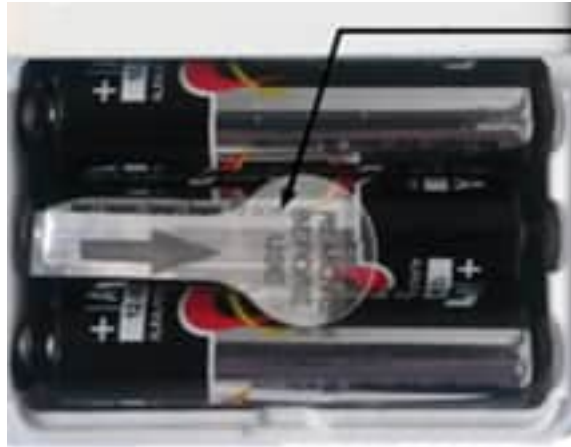

Figure 5.61: Symbols showing the correct orientation of the batteries displayed on the bottom of the battery compartment
3. Insert three fresh batteries one after the other in the correct orientation. Refer to the symbols on the bottom of the battery compartment. These symbols clarify the orientation and polarity of the batteries (Figure 5.61).